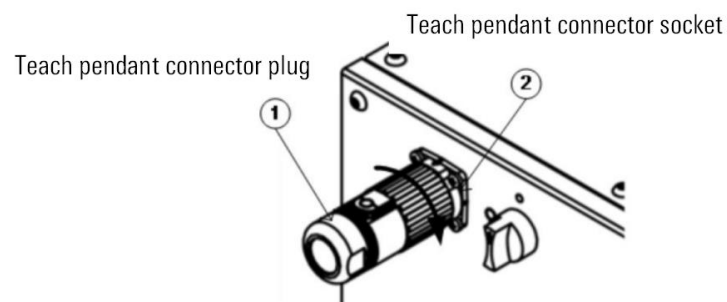

Figure 4-5 Teach pendant connection interface
Step3.Connect the teach pendant to the control cabinet: Align the triangle alignment symbols on the plug and socket, then push the connector in, rotate the plug 45 degrees clockwise, and tighten the plug and socket (see Figure 4-5).